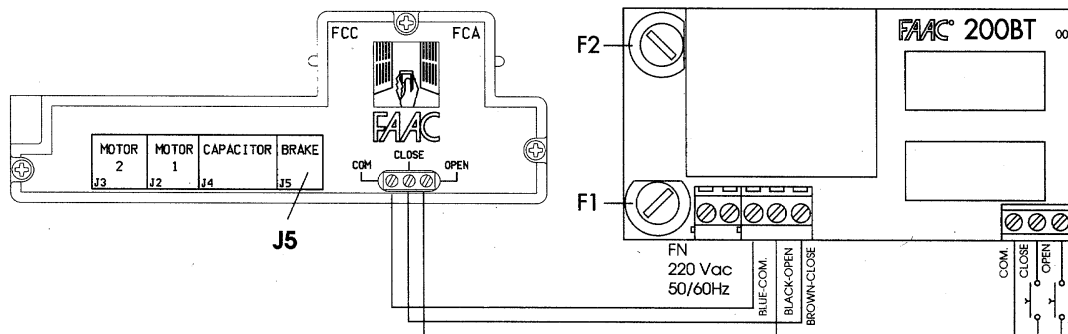

Fig. 7
- A) Insert the allen key ② into the solenoid brake ④.
- B) Fit the solenoid brake ④ to the cover ① of the electric motor using bolts ⑤ and nuts ③.
- C) Assemble the release knob ⑧, making sure to screw in the adjuster ⑥ as far as it will go.
- D) Pull the cable and tighten clamp ⑦.
- E) Insert the brake connector ⑨ into the connection socket **BRAKE J5** fig. 7, breaking off the plastic tab.